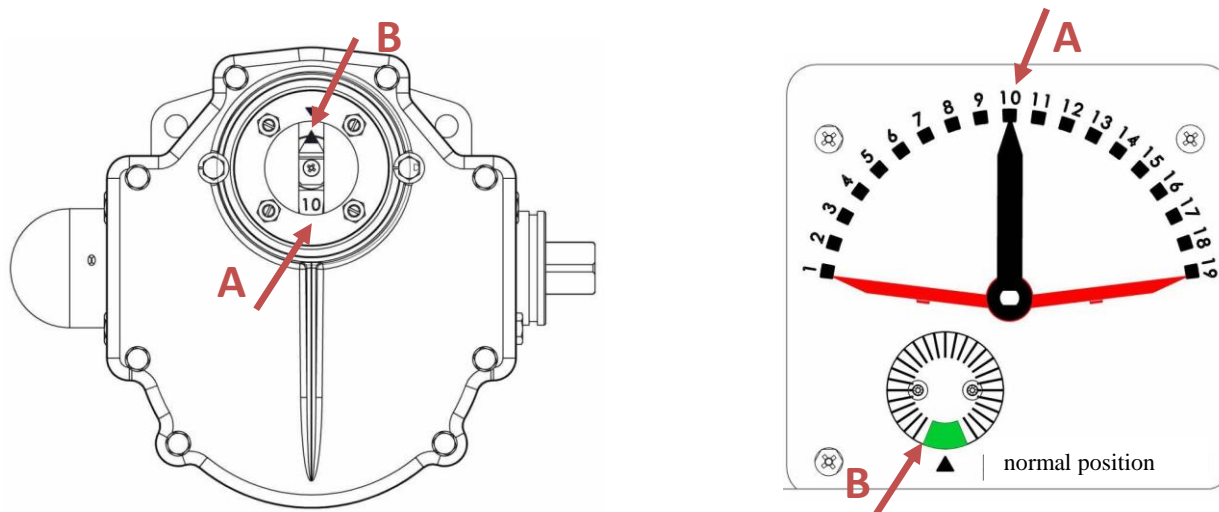

Fig.33– Local indicators of the worm gear box and the motor drive unit
1. The local indicators of the OLTC position and the motor drive unit must be showing the same operating position (Fig. 33, arrow A)
2. The normal position indicators of the OLTC and the motor drive unit are set to “normal position” (Fig. 33, arrow B)